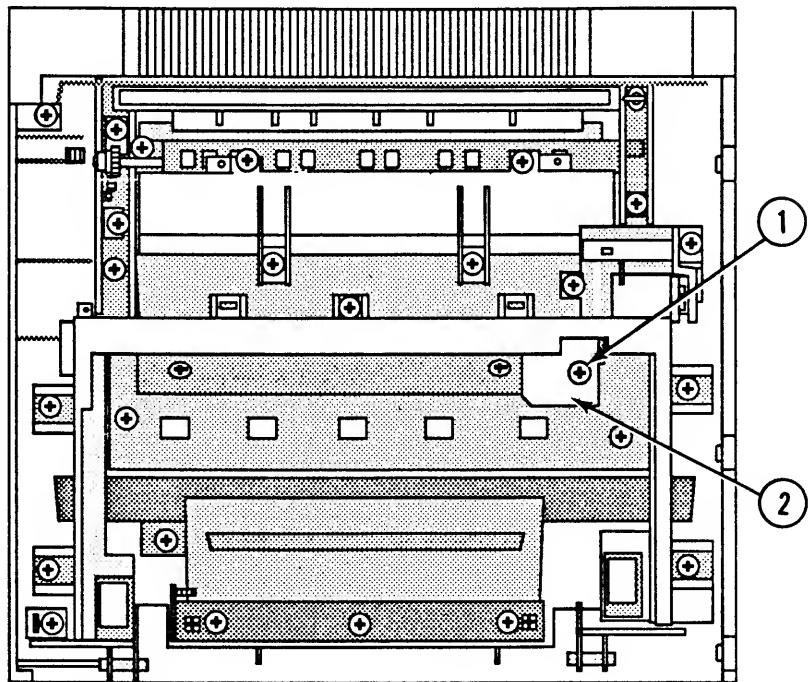

FIGURE 73
2. Remove the Phillips screw (Figure 73, #1) that secures the preconditioning exposure contact cover (Figure 73, #2) to the preconditioning exposure assembly. Remove the cover.